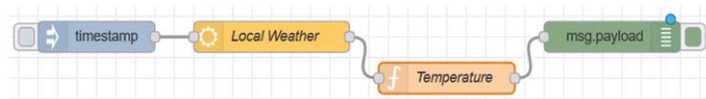

Figure 4.47 Join the 4 nodes together
- Create a **debug** node. Join the 4 nodes together as in Figure 4.47. Click **Deploy**.